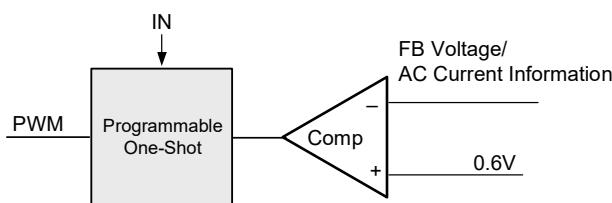

Figure 3. Simplified Control Schematic of AOZ2261NQI-11
The simplified control schematic is shown in Figure. 3. The high-side switch on-time is determined solely by a one-shot whose pulse width can be programmed by one external resistor and is inversely proportional to input voltage (IN). The one-shot is triggered when the internal 0.6V is higher than the combined information of FB voltage and the AC current information of inductor, which is processed and obtained through the sensed lower-side MOSFET current once it turns-on. The added AC current information can help the stability of constant-on time control even with pure ceramic output capacitors, which have very low ESR. The AC current information has no DC offset, which does not cause offset with output load change, which is fundamentally different from other V^2 constant-on time control schemes.